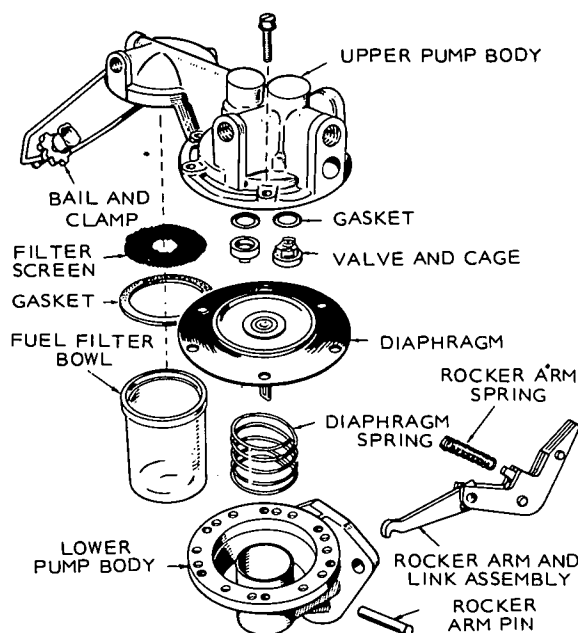

FIGURE 13. EXPLODED VIEW OF J-SERIES PUMP
2. Remove the securing screws and separate the upper and lower pump bodies (Figure 13).